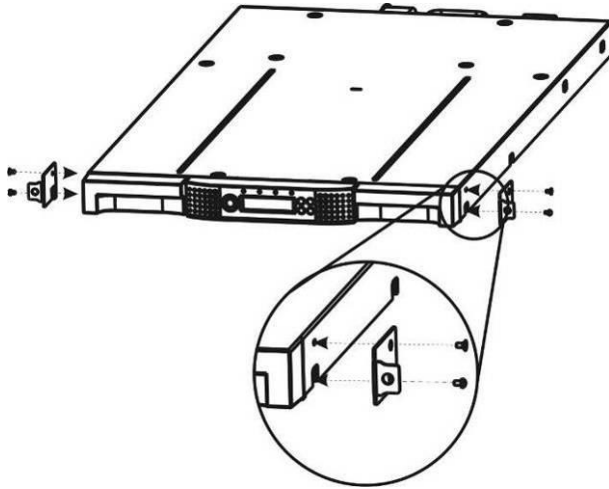

Figure 30 Install the mounting brackets (1U)
6. Install the mounting brackets of the library using the Torx screws T10 included in the rack mount kit; see **Figure 30**.